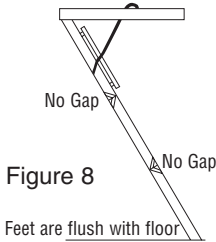

Figure 8
2. Trimmed correctly, your attic ladder should look like Figure 8.